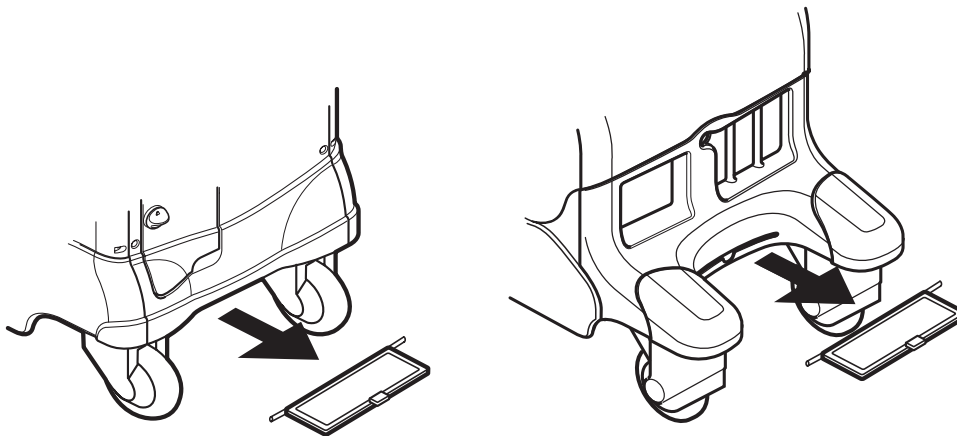

Figure 8-78 Removing the Air Filters
1.) Remove Air Filter as illustrated below. Refer to Figure 8-78.